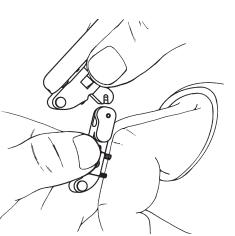

Fig. 7
3. While supporting the Pin Block, snap the Connector Assembly onto the Pivot (Fig. 7). There is a definite "click" when the device is properly connected.